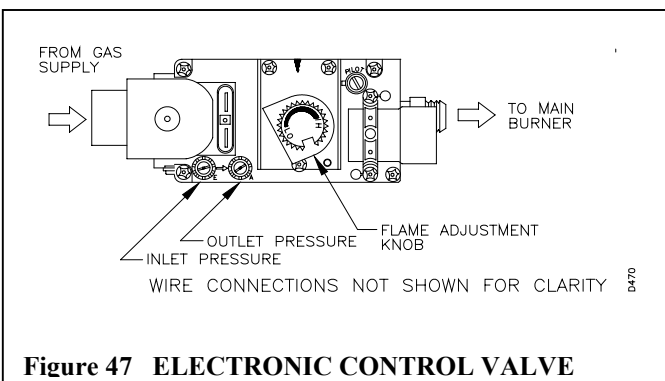

Figure 47 ELECTRONIC CONTROL VALVE
The electronic system applies to the (V)DVF36TPNEA / TSTEA and (V)DVF36TPNPEA / TSTPEA models (see figure 47).